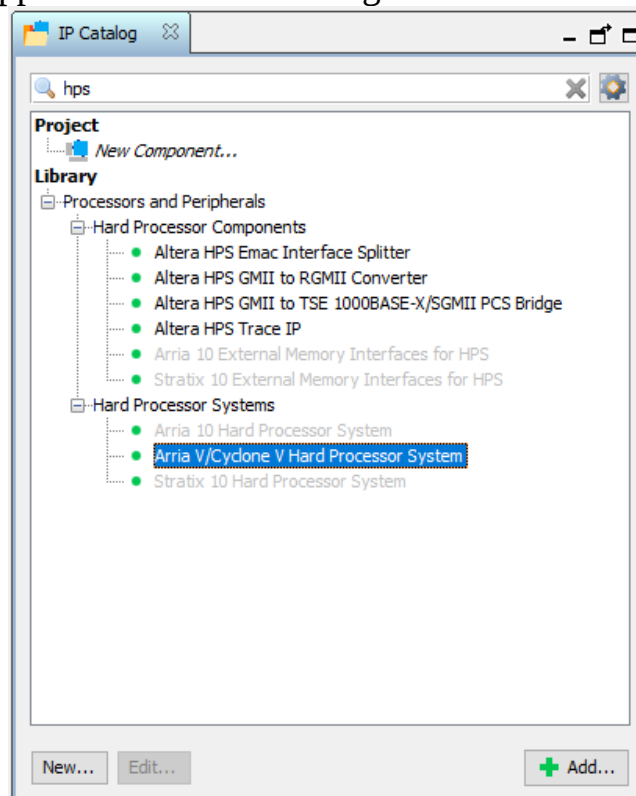

Figure 27 : HPS on IP Catalog
2. On IP Catalog tab, search the word “hps”, then Arria V/Cyclone V Hard Processor System will appear as shown in the Figure 27. Double click it.